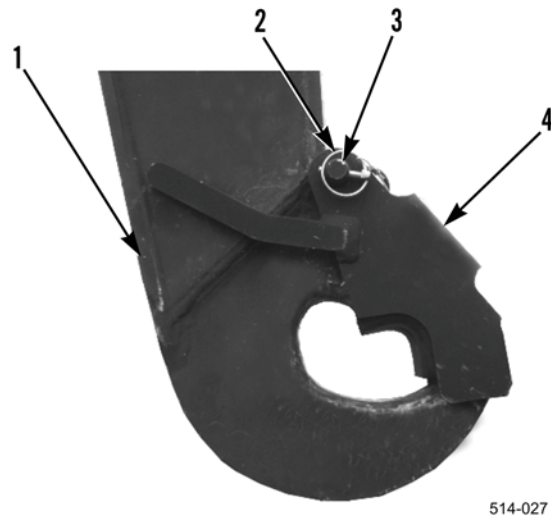

Figure 19. Bail Bar Lock on Hook.
9. Remove snap pin (Figure 19, Item 2) from locking bar (Figure 19, Item 3).
10. Remove locking bar (Figure 19, Item 3), and bail bar lock (Figure 19, Item 4) from hook (Figure 19, Item 1).